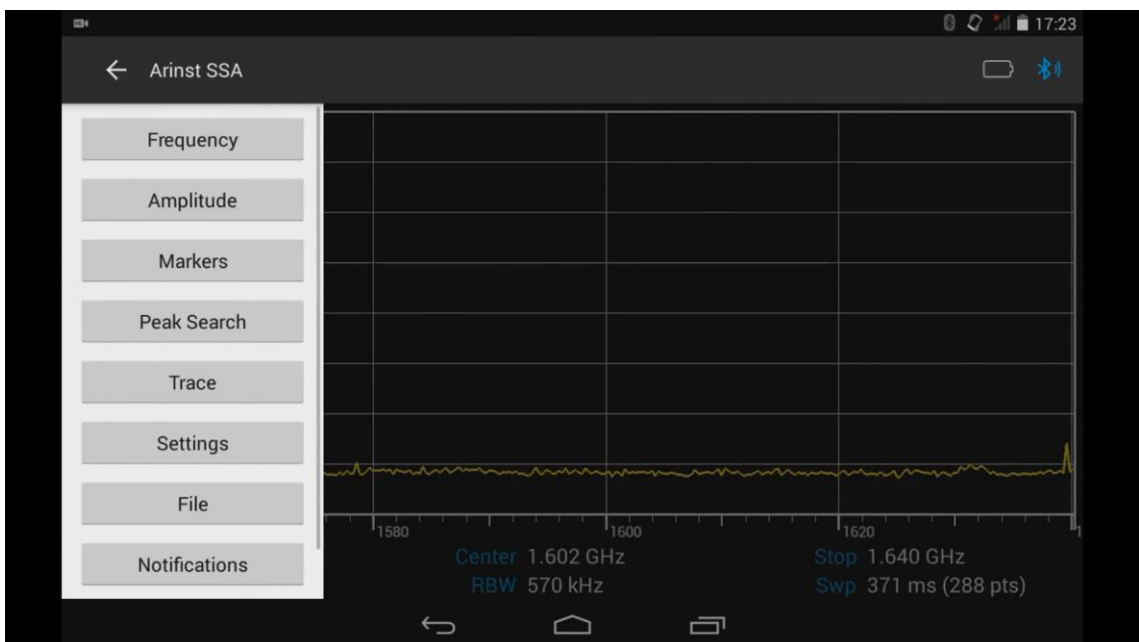

Figure 29 – Main menu of the control program
8.3.1. To enter the main menu, slide your finger from left to right from the left edge of the screen / smartphone screen. The main menu of the control program opens, as in Figure 29.